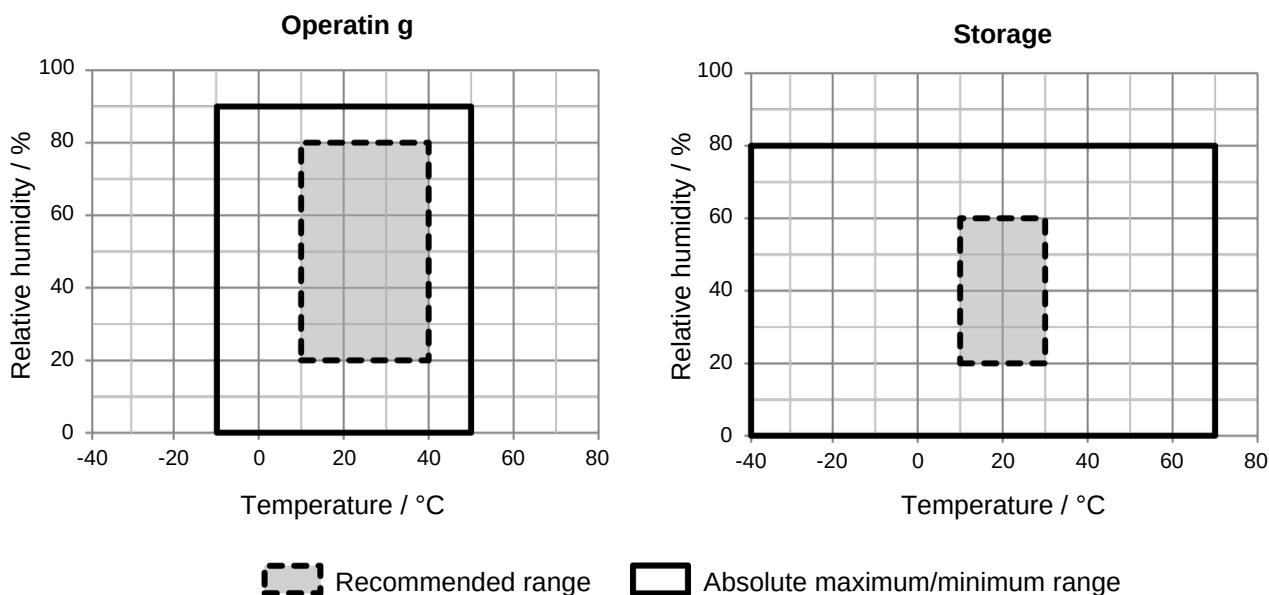

Figure 2. Recommended and absolute maximum/minimum operating and storage conditions for the SEN63, SEN65 and SEN66
2.7.2 SEN63C, SEN65 and SEN66 Table 9 and Figure 2 show the recommended operating and storage conditions in which all the sensing components of the SEN63C, SEN65 and SEN66 show the best performance, as well as absolute maximum/minimum conditions which must not be exceeded. Gas sensing specifications are guaranteed only when the SEN63C, SEN65 and SEN66 are operated and stored under the recommended conditions given in Table 9 and Figure 2.